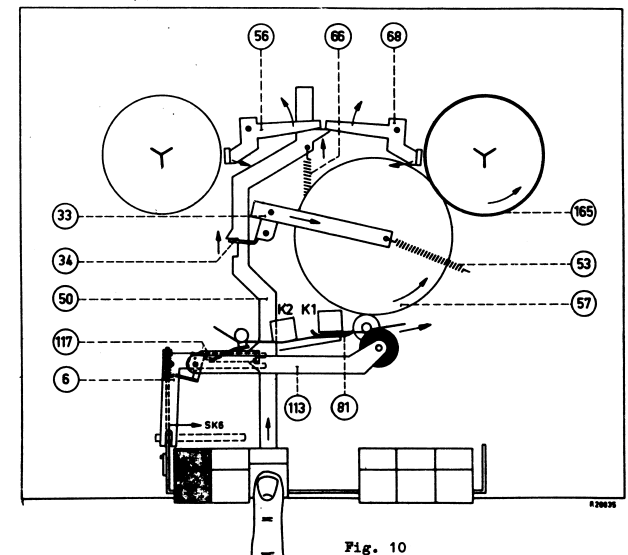

Fig. 10
- When the playback key is depressed the start strip 50 moves backwards. Consequently, the control bracket 117 of the pressure roller lever 113 also moves backwards, so that the pressure roller is pressed against the capstan and the tape can be transported along the heads K1 and K2. The pressure felt in bracket 81 presses the tape adequately against the recording/playback head K1 (see fig. 10).